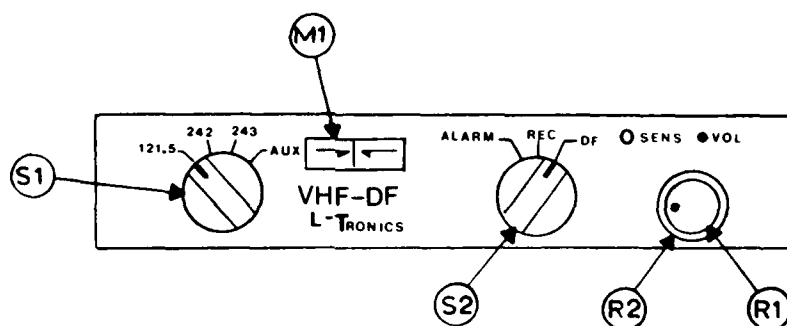

Figure 5. L-Tronics VHF/DF Receiver Operating Controls
The L-Tronics LA Series Direction Finder (DF) Receiver is an independent, crystal-controlled receiver and direction indicator. The indicator is a panel meter that indicates both left and right homing at distances from 50 ft to 50 miles. The unit in use in the aircraft rack is crystalized for 242.0 MHz. Performance specifications for this unit are listed in Table B4. The front panel with user controls is shown in Figure 5.